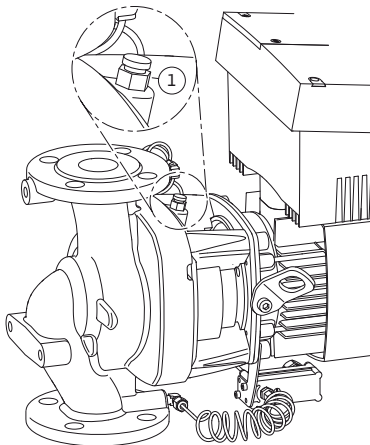

Fig. 44: Bleed valve
6. Depressurise the pump by opening the bleed valve (Fig. 44 Item 1).